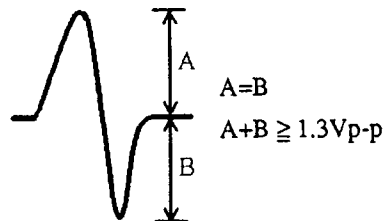

Fig. 8
3. When the TRACK FWD $\blacktriangleright\blacktriangleleft$ key is pressed while observing the oscilloscope screen, the waveform shown in Fig. 8 can be observed instantaneously. Confirm that the amplitude in this state is 1.3 Vp-p or more and that the amplitude is nearly equal on positive and negative sides. Since the waveform appears only instantaneously when the TRACK FWD $\blacktriangleright\blacktriangleleft$ key is pressed, repeat pressing this key until confirmation of the waveform is completed.